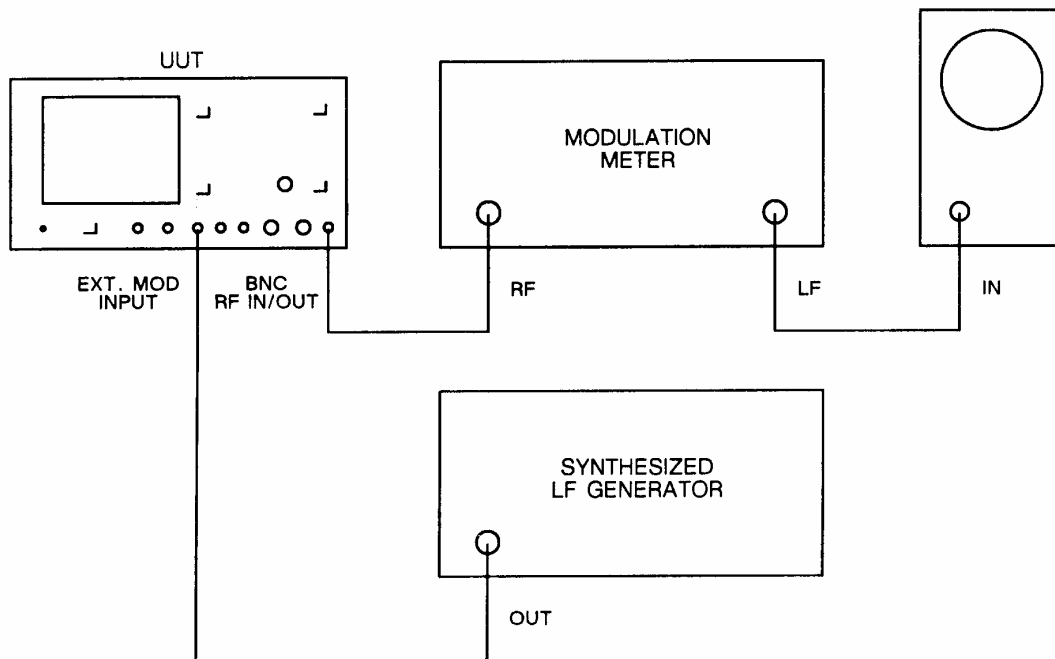

Fig. 5-2-3 Test equipment connections for adjusting R138 on AA3
- (1) Connect the equipment as shown in Fig. 5-2-3.
- (2) Set the UUT to receiver test (RX), BNC output socket. Set the signal generator to 300 MHz, level 0 dBm, 0 kHz FM.
- (3) Set the synthesized LF generator to give a 10 Hz square wave of 1 V pk-pk.
- (4) Set the modulation meter to monitor FM. (If the Marconi Modulation Meter 2305 is used, select the 10 Hz - 300 kHz filter and set the LF control to the white mark.)
- (5) The oscilloscope should display a fuzzy 10 Hz 'square wave' which will have some sag. If there is more than 40% sag, adjust R138 until the top and bottom of the waveform are reasonably straight and smooth.